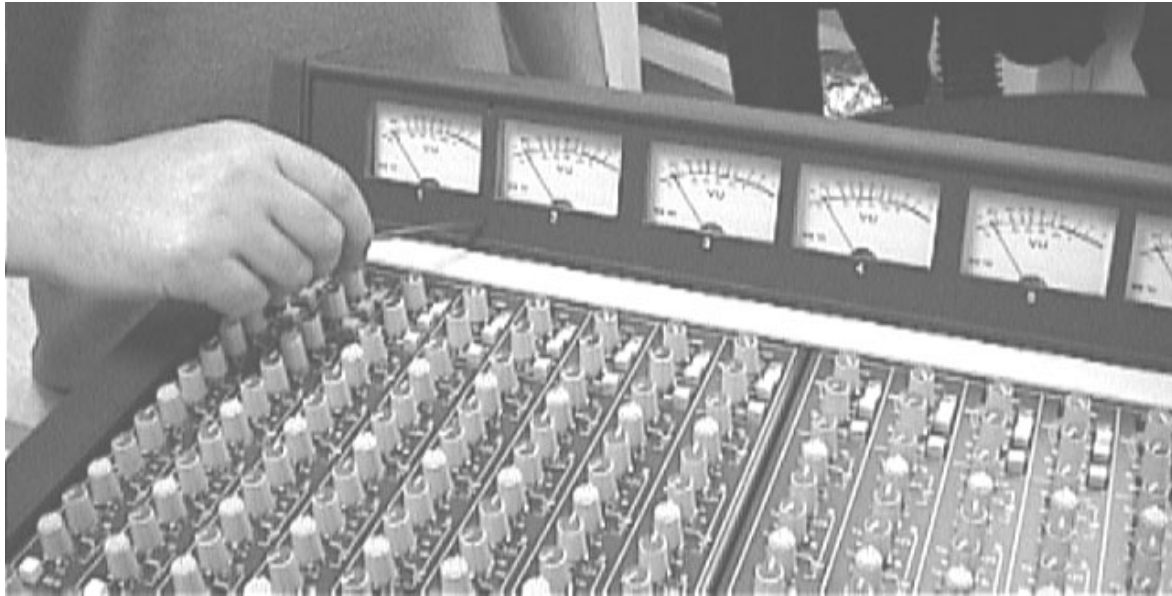

fig.8
- 2) With a person standing at either end of the console, each using a small, thin screwdriver, place the screwdriver through each of the endmost bottom rivet holes (see fig 8). Raise the meter panel up with the screwdrivers so that the bottom becomes free of the extrusion.